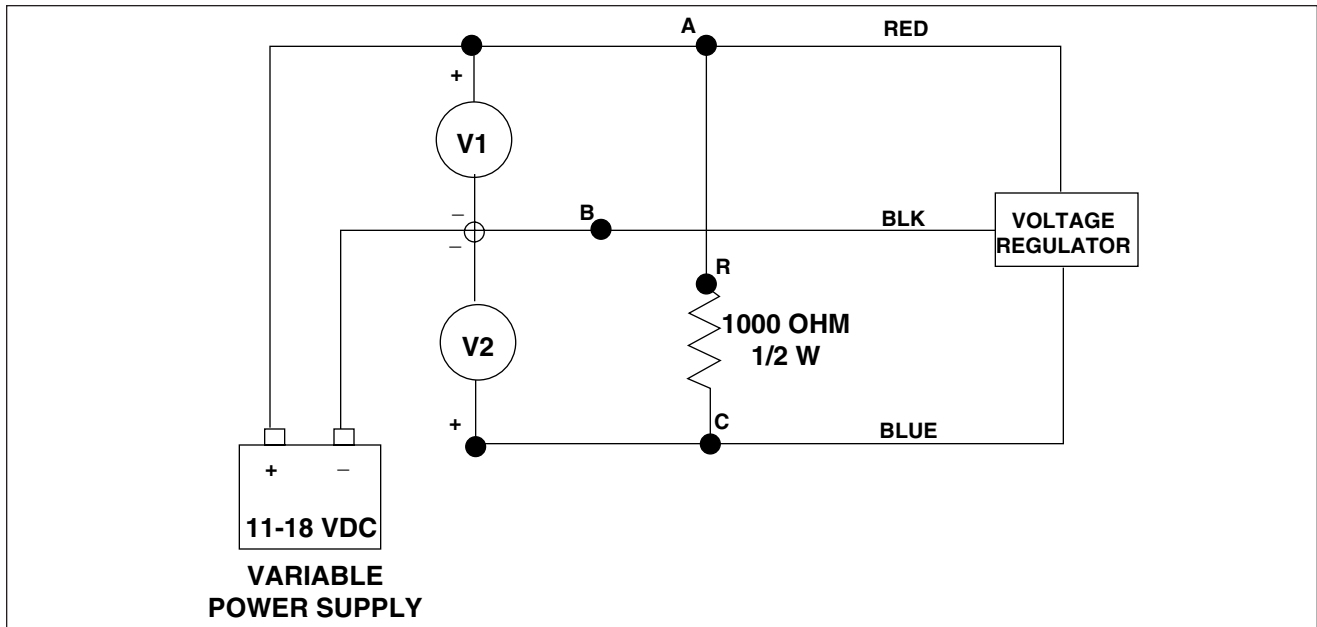

Figure 11-47. Lamar 14 Vdc System Overvoltage Check
1. Voltmeter connections. (Refer to Figure 11-47.)
2. Light Bulb Connections. (Refer to Figure 11-47.)